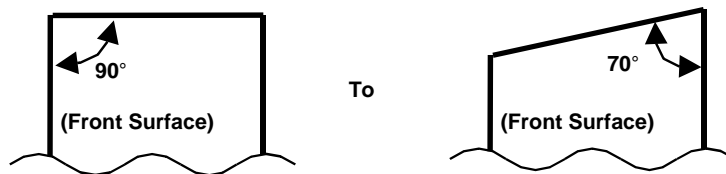

Figure 9-3 Paper Edge (Automatic Load)
- ③ Insert the edge of the paper straight into the paper insert position and feed the paper until it emerges from the paper cutter.
- ④ Pull on the edge of the paper and check to make sure it is properly set, then put the head down.
(2) Loading the paper automatically:
- ① Put the printer to the head down state.
- ② Cut the edge of paper in the manner as shown in **Figure 9-3**.
- 1) The paper sensor is located on the same side as the head-up lever. If the paper is cut in a direction opposite to that as shown in **Figure 9-3**, then it will not detect the paper.